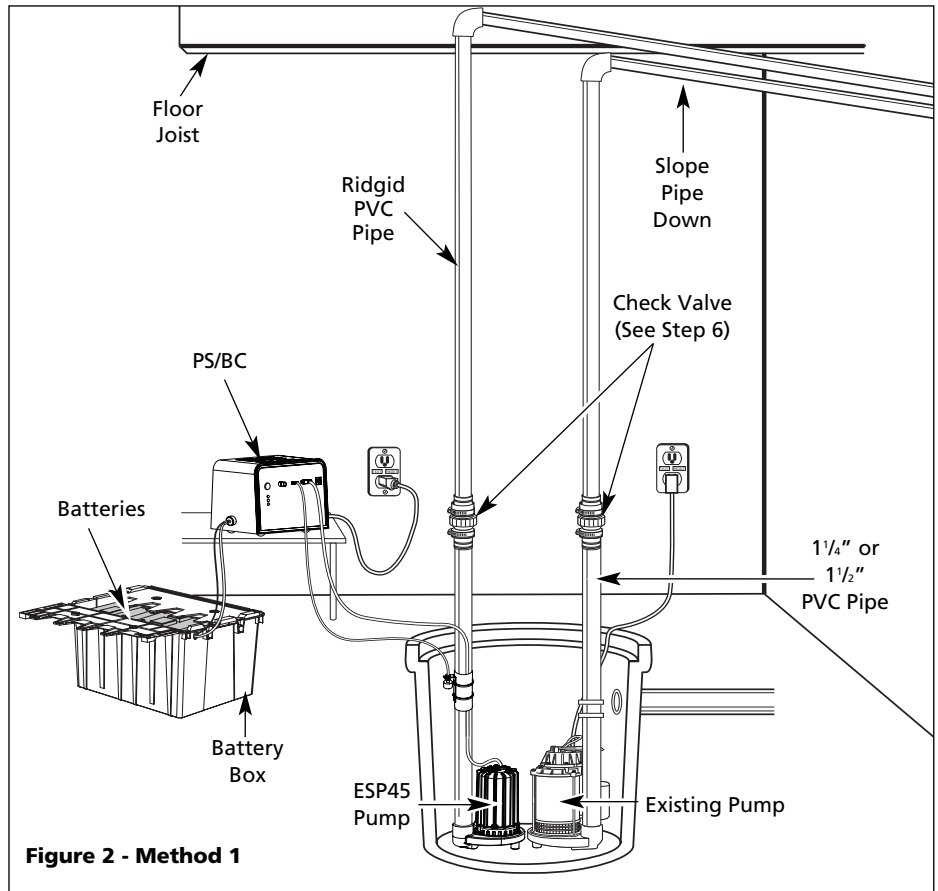

Figure 2 - Method 1
**NOTE:** Check valves can be placed directly in the pump discharge if desired. However, for ease of disassembly, it is recommended that check valves be placed above the sump as shown in Figure 2.